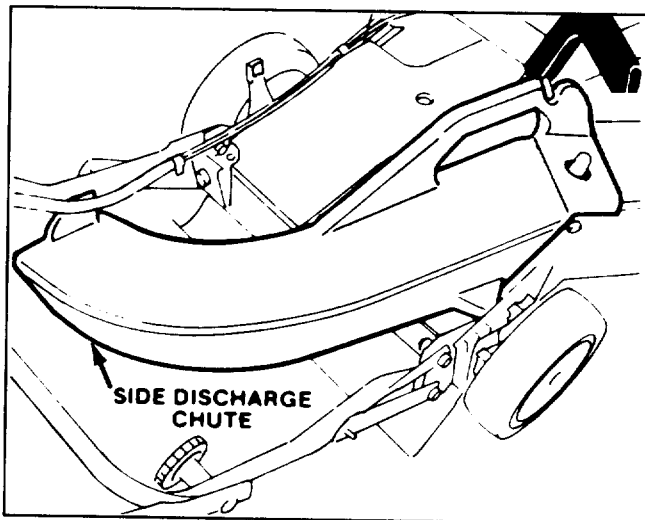

Figure 28
**2. Side Discharge Kit, Model 59168**—(requires Rear Bagging Kit, Model 59174). Installs in seconds. Rear mounted in place of grass bag or discharge tunnel plug. Disperses clippings while trimming on both sides (Fig. 28).